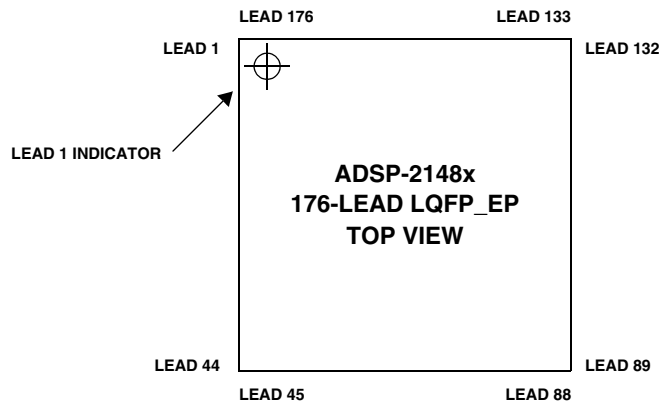

Figure 50. 176-Lead LQFP_EP Lead Configuration (Top View)
* Lead no. 177 (exposed pad) is the GND supply (see Figure 50 and Figure 51) for the processor; this pad must be **robustly** connected to GND.
Figure 50 shows the top view of the 176-lead LQFP_EP lead configuration. Figure 51 shows the bottom view of the 176-lead LQFP_EP lead configuration.